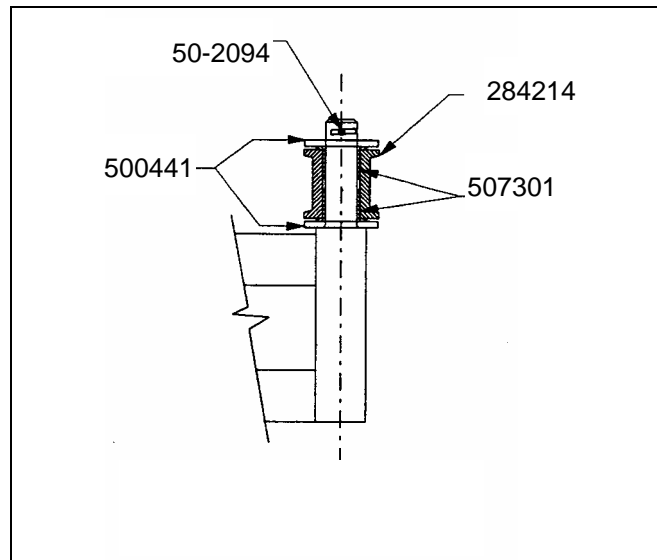

FIGURE 5
6. Install hardware on roller pin as shown in Figure 5.